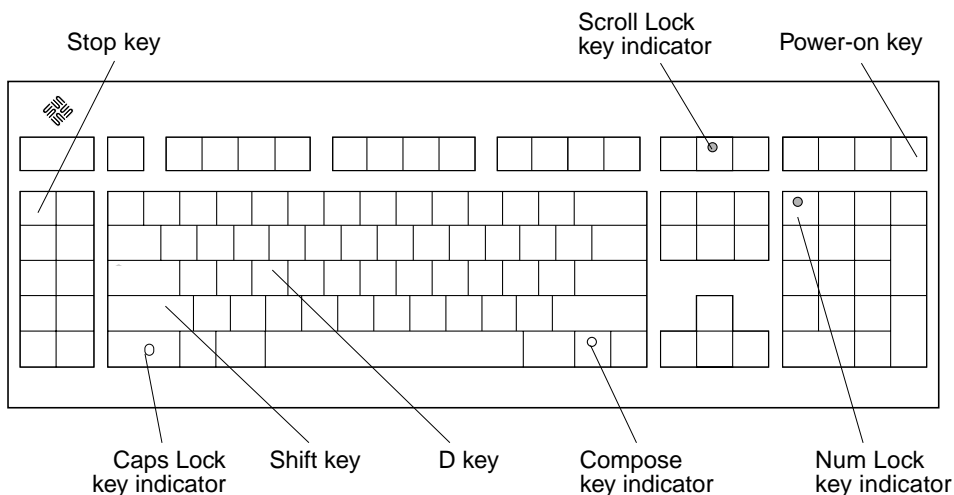

FIGURE 3-2 Sun Type-5 Keyboard
2. At the keyboard, power cycle the system unit by simultaneously pressing the Shift key and the Power-on key (FIGURE 3-2). After a few seconds, press the Power-on key again.